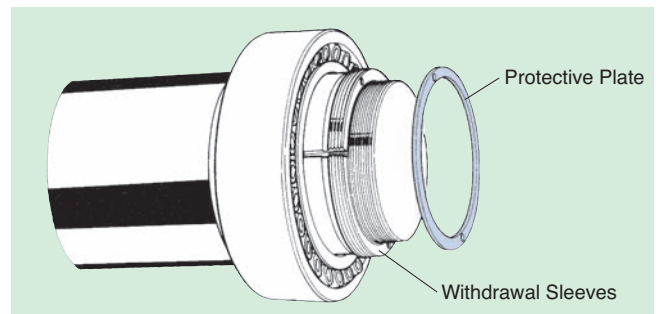

Fig. 13
(2) Install the bearing and hydraulic withdrawal sleeve (see Fig. 13).